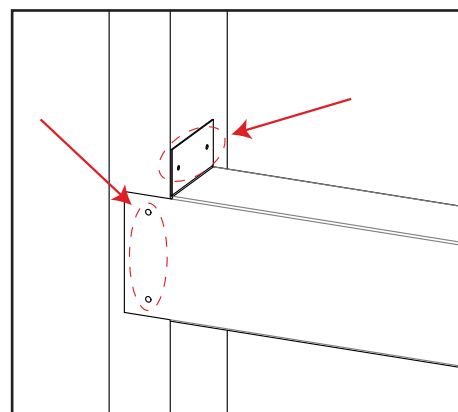

Figure 18: Steel Stud Installation
- Attach the steel stud to the framing studs using the holes shown in Figure 18.